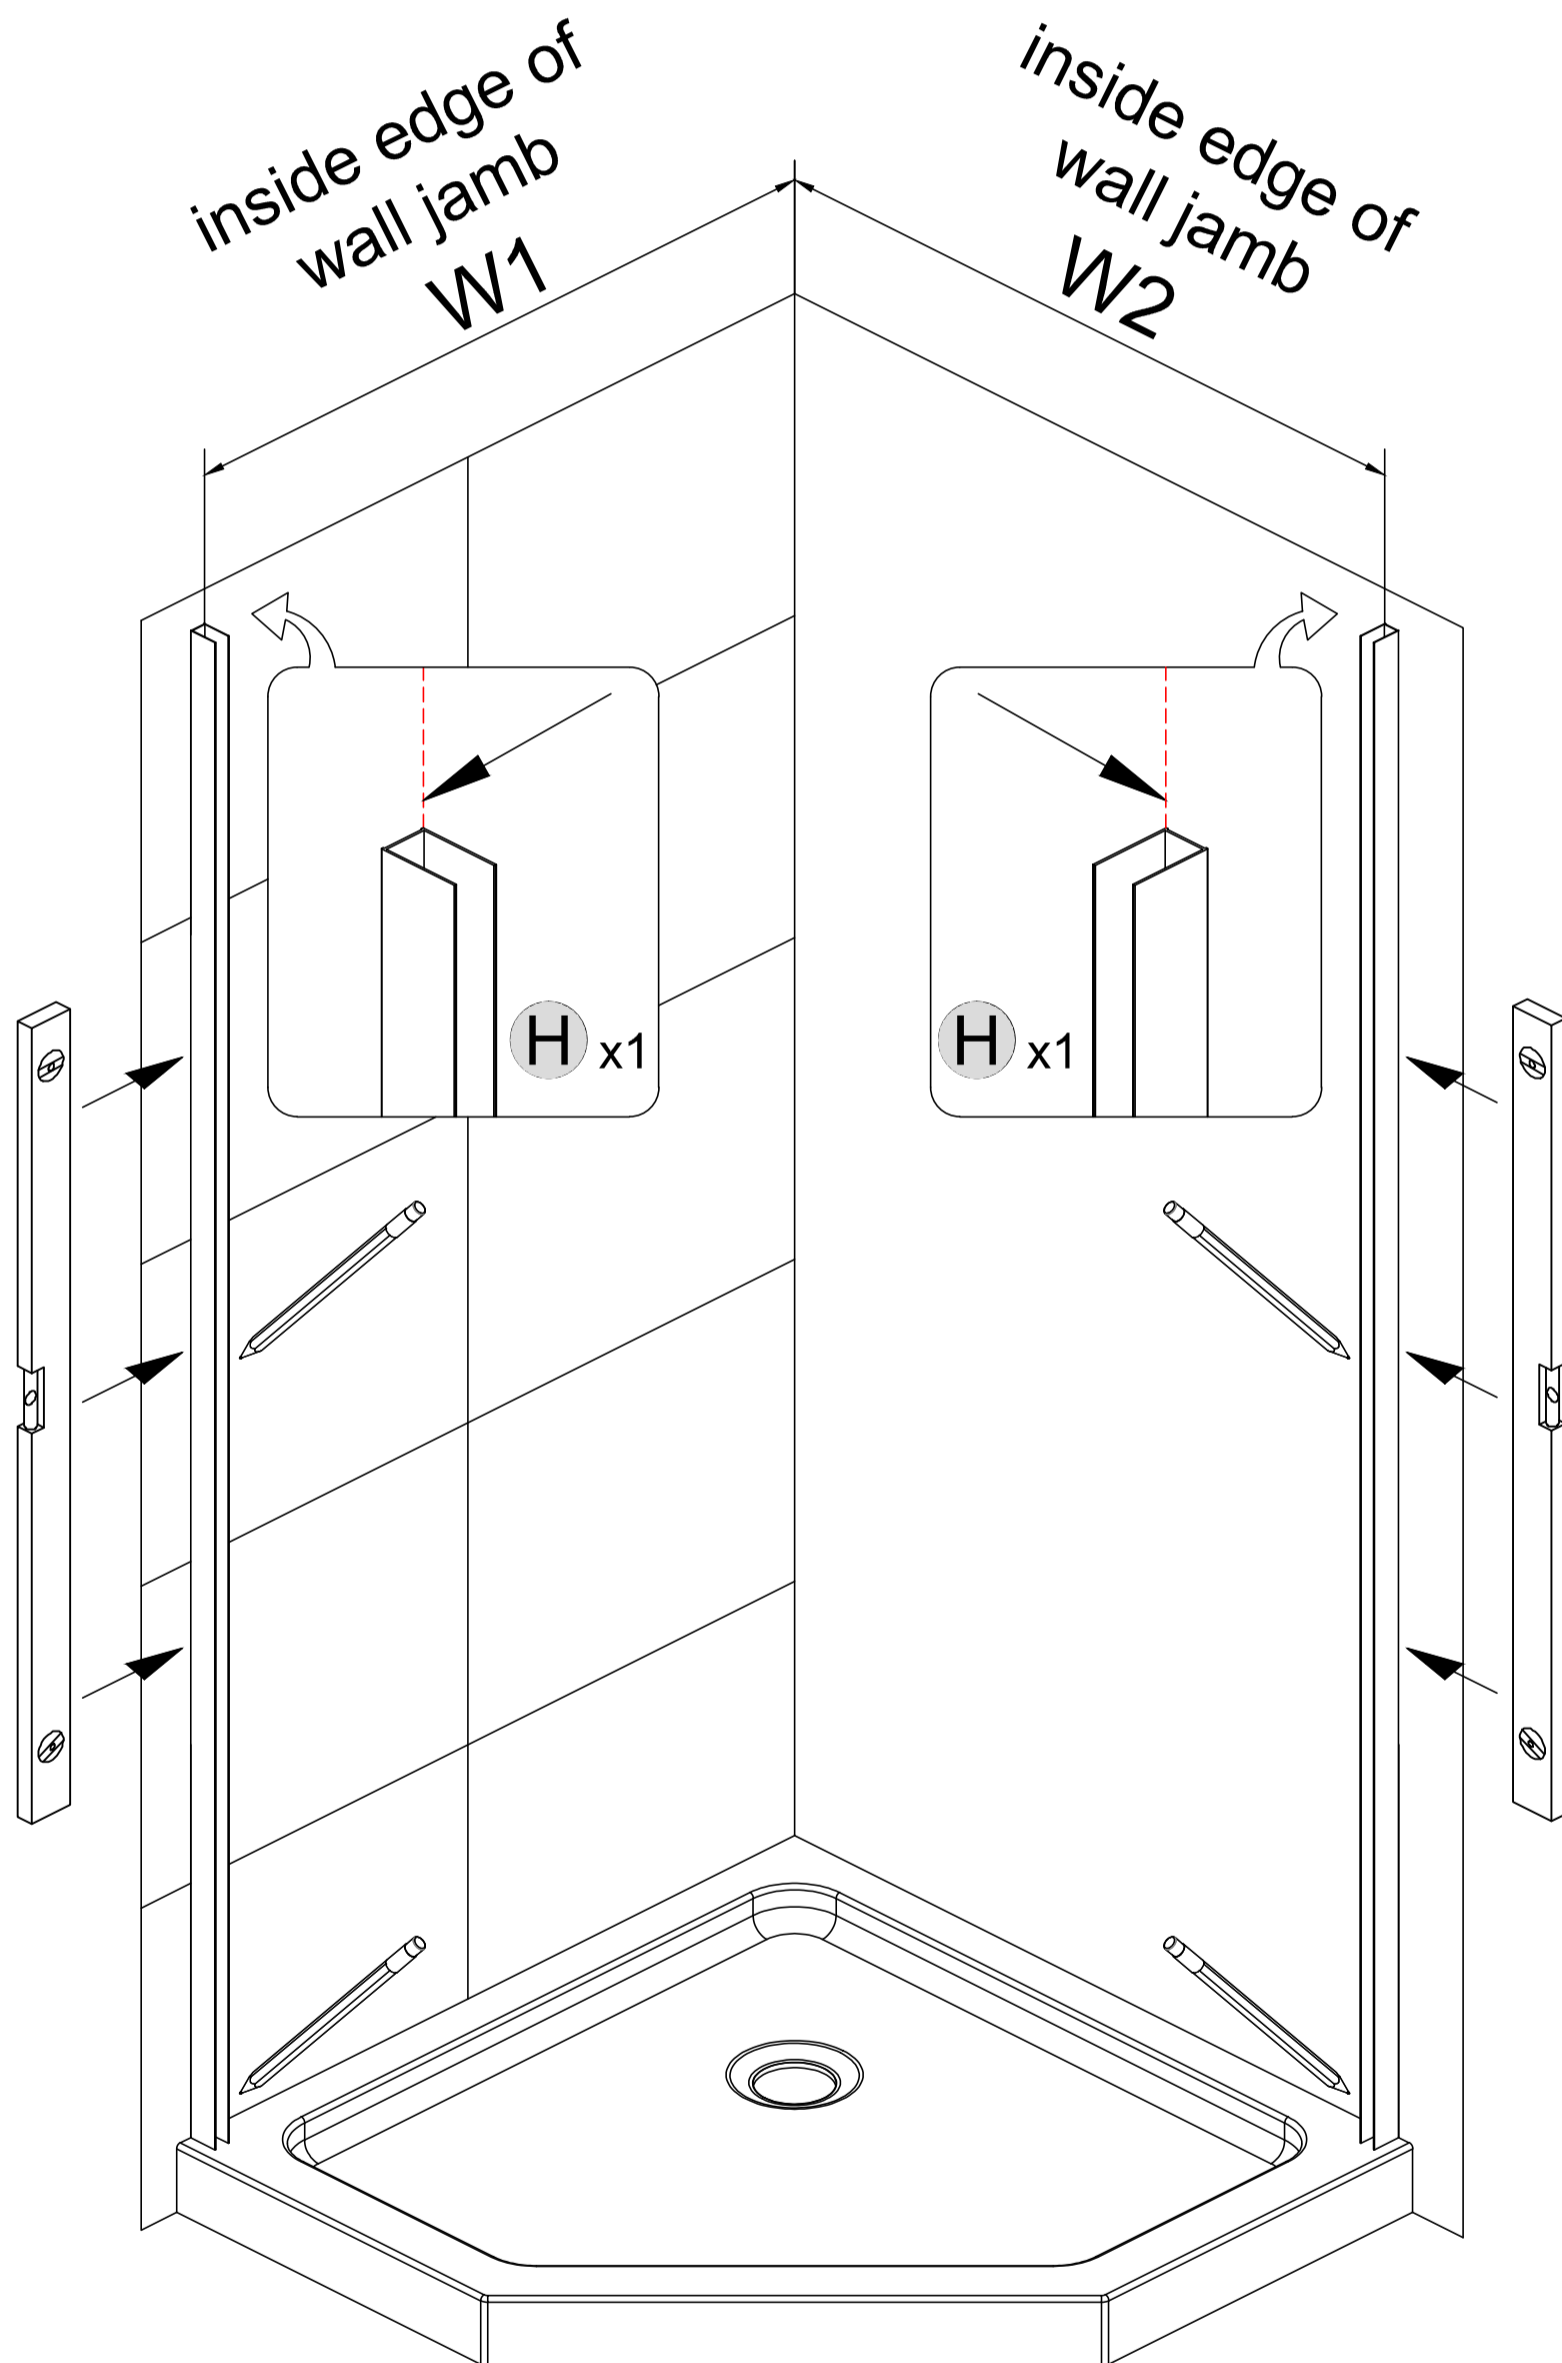

Fig 1
2. Place the **Wall Jamb (H)** against the walls and aligned with the new reference marks on the threshold. Use a level to plumb each wall profile. (Table 1, Fig 1)